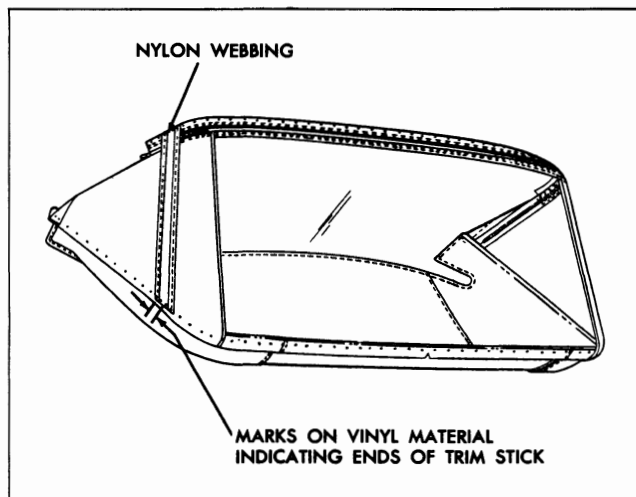

Fig. 21-38 Marking Back Curtain
13. Using chalk, or other suitable material, mark ends of rear and rear quarter trim sticks on vinyl surface of back curtain material (Fig. 21-38). Reference marks for trim sticks should be transferred to new back curtain material when step 4 of installation procedure is performed.